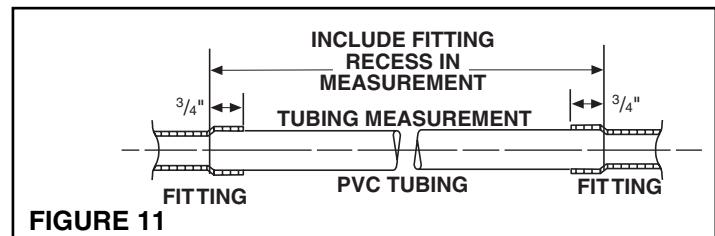

FIGURE 11
7. Refer to Figure 11. Measure length of tubing needed to connect inlet to trunk line. Allow approximately $\frac{3}{4}$ " of tubing for inserting into fittings.